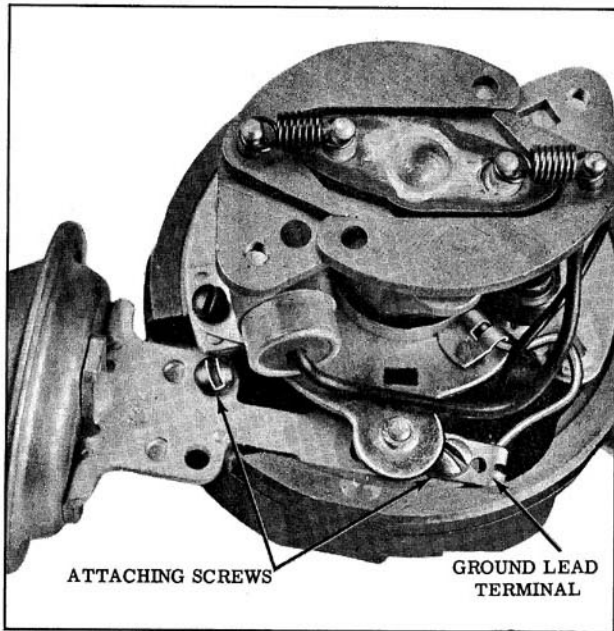

Fig. 13-72 Vacuum Advance Unit
1. Remove the two vacuum advance attaching screws. (Fig. 13-72)
4. Install the attaching screws with the ground lead terminal under the inner mounting screw. (Fig. 13-72)
1. Install the vacuum advance with the ground lead terminal under the inner mounting screw. (Fig. 13-72)